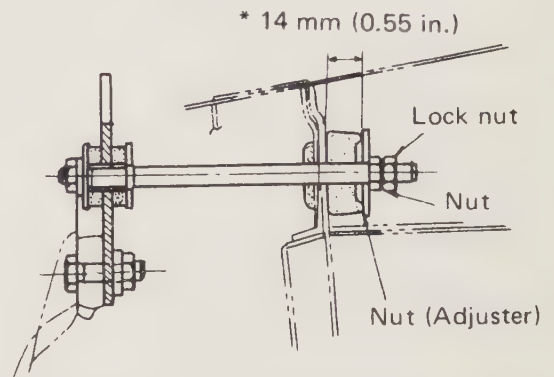
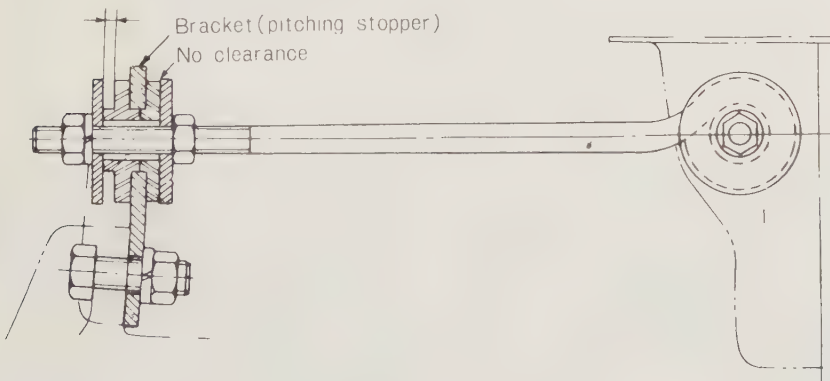
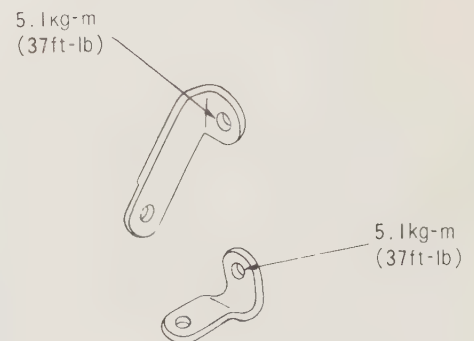

Fig. 1.35. Adjusting the horizontal damper (FF-1 models)
Fig. 1.36. Adjusting the horizontal damper (1972-1977 models)
Fig. 1.37. Tightening the stiffeners (4WD models)
- 3 When refitting the horizontal damper refer to Fig. 1.35 and adjust to dimension shown for FF-1 models. For adjustment of the horizontal damper on 1972 - 77 models refer to Fig. 1.36 and proceed as follows:
- a) Tighten the nut (1) completely.
- b) Turn the nut (6) until the clearance between washer (2) and rubber (3) is zero.
- c) Fit the bushing (4) and then tighten the nut (5) to a torque of 7 - 10 lb f ft (0.9 - 1.4 kg fm).
- d) For 4WD models, tighten the bolts at the stiffeners to the torque shown in Fig. 1.37.